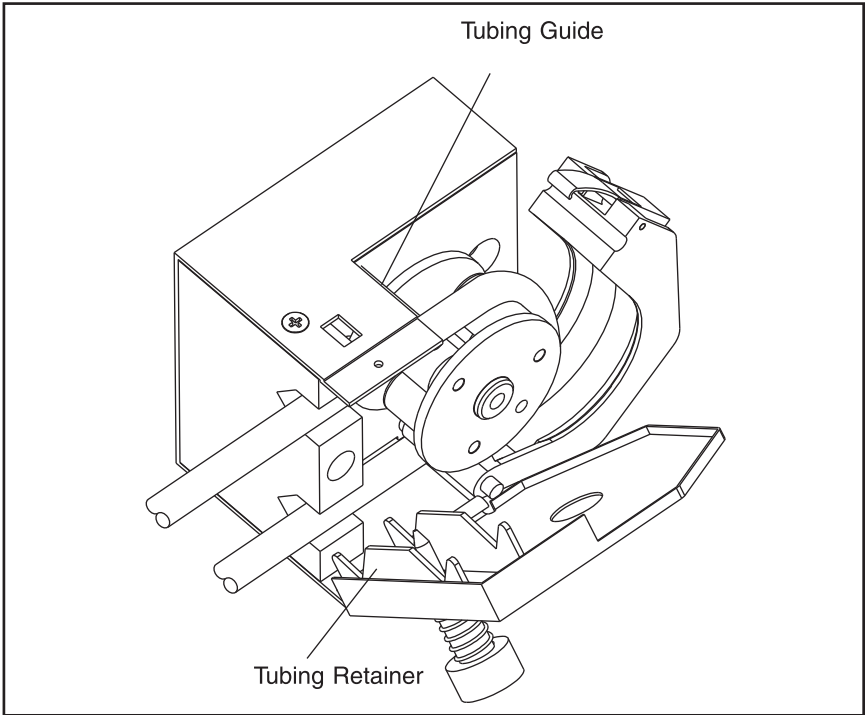

Figure 3. Loading Tubing
3. Insert the MASTERFLEX tubing inside tubing guide and around rotor with the ends of the tubing extending out of the tubing entrance and tubing exit as shown in Figure 3. Center tubing on roller.